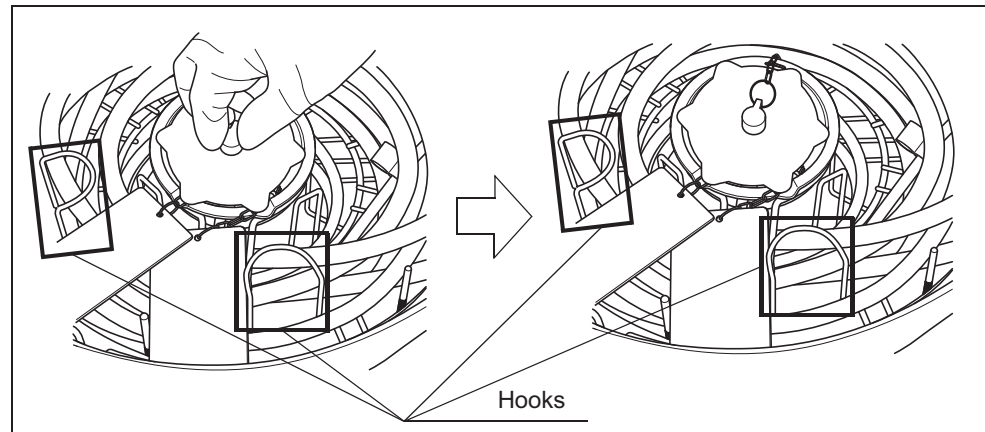

Figure 6.43
- When the chain of AW channel cleaning is set on the rim, make sure that the indicator plates of AW channel cleaning adapters are set between the hooks by referring the Figure 6.43 and 6.53. Otherwise, the reprocessing may be insufficient.